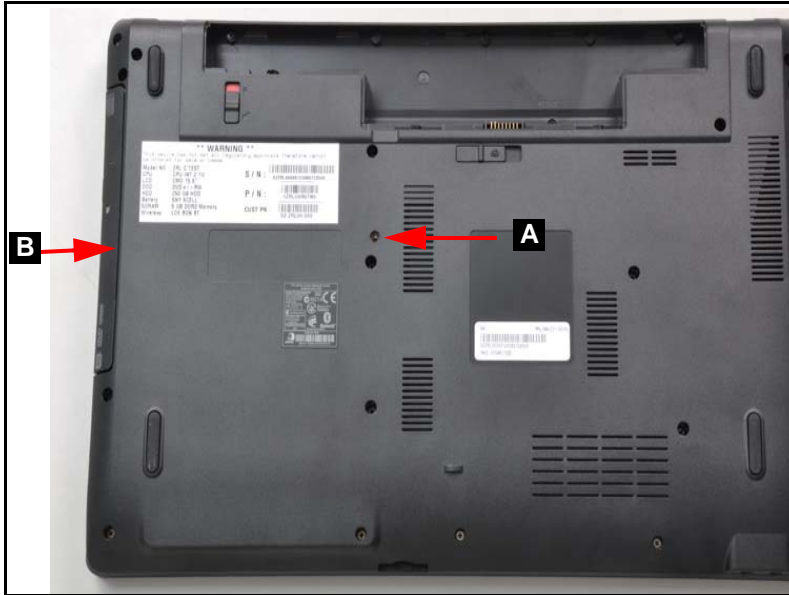

Figure 3-8. ODD Module in Lower Cover
1. Remove one (1) screw (A) from lower cover (Figure 3-8).
2. Remove ODD module from ODD bay (B) (Figure 3-8).
4. Place the ODD module into the ODD bay. Refer to Figure 3-8.
5. Install and secure one (1) screw to the base cover.